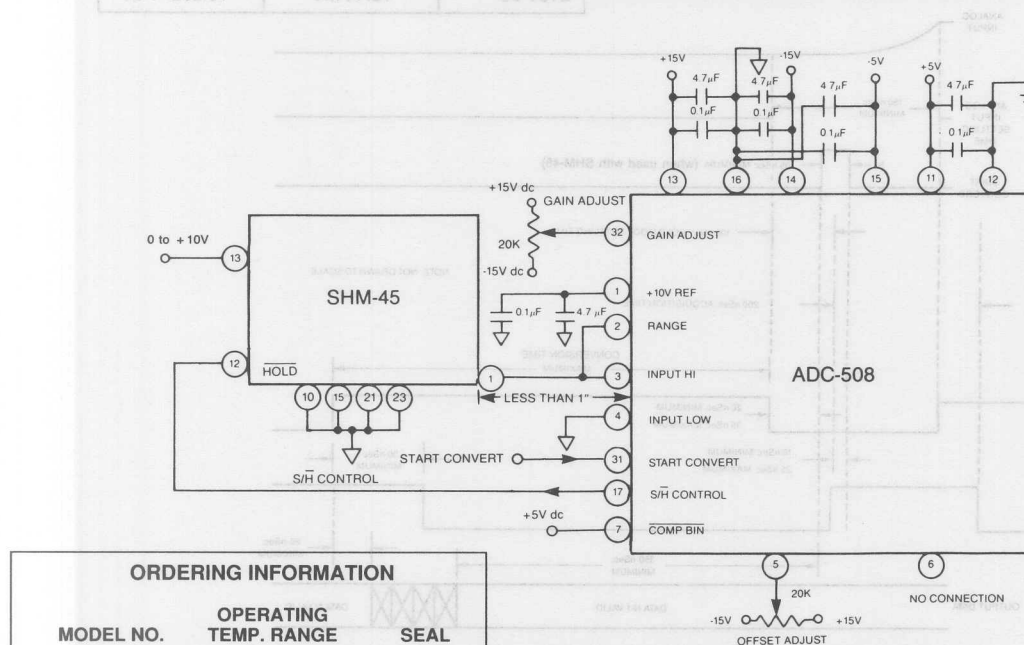

Figure 3. ADC-SHM Connection Diagram
9. Requirements for ± 2.5 V inputs can be satisfied using DATEL's AM-1435 amplifier in front of the SHM-45/ADC-508 configuration, shown in Figure 3, at the appropriate gain. The SHM-45's gain of 2 mode allows 0 to +5V or ± 5 V input ranges.
1. Connect the converter per Figure 3 and Table 2 for the appropriate full-scale range (FSR). Apply a pulse of 50 nanoseconds minimum to the START CONVERT input (pin 31) at a rate of 500 KHz. This rate chosen to reduce flicker if LED's are used on the outputs for calibration purposes.